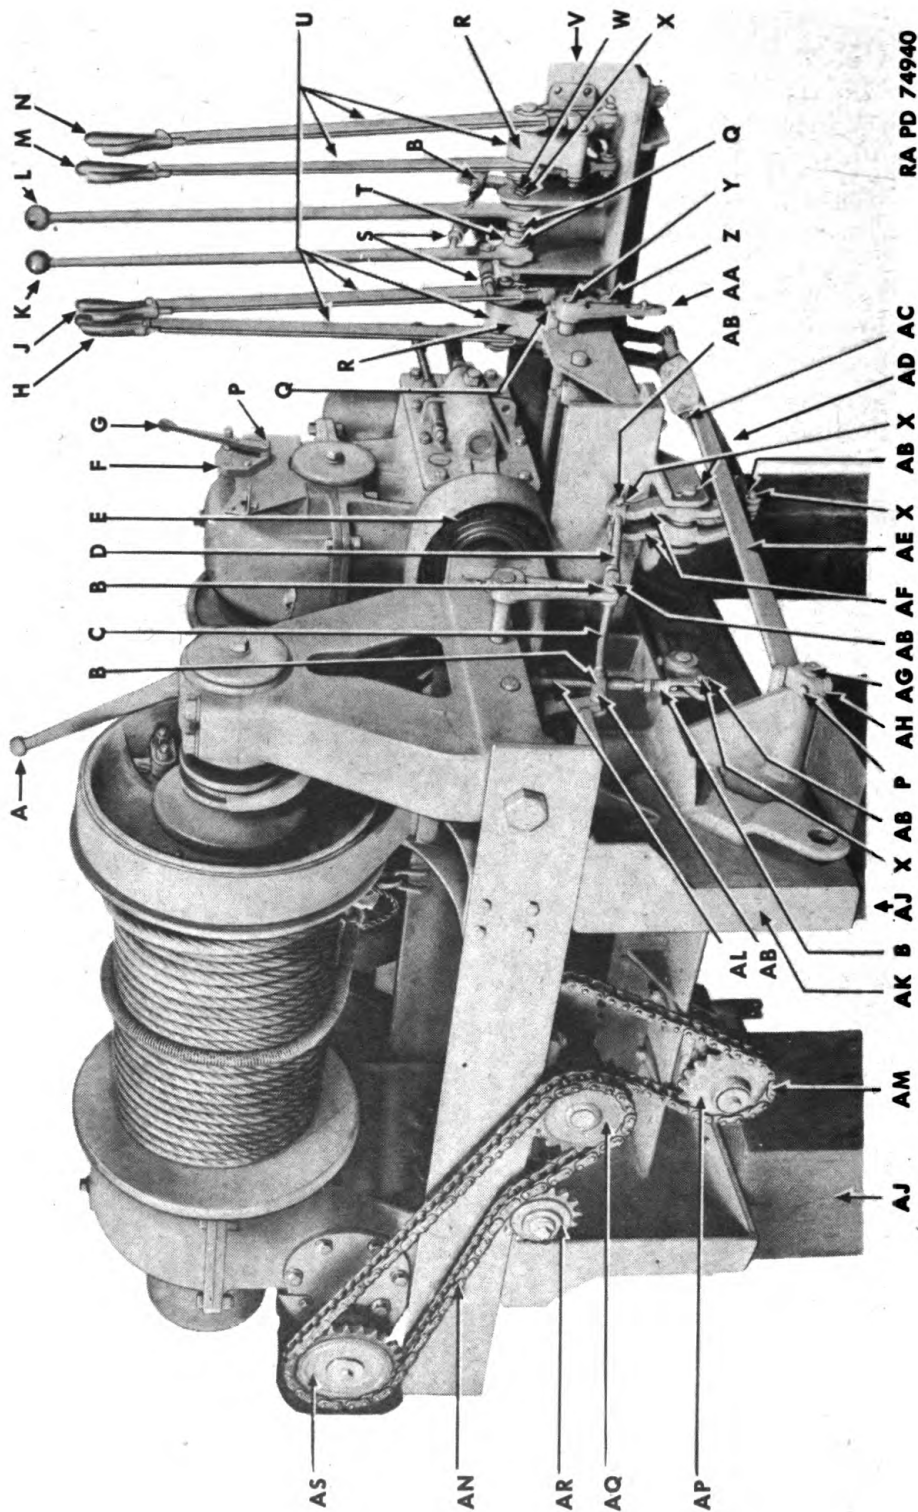

Figure 31 — Tandem Winch Assembly — Front View
(1) **TANDEM WINCH** (figs. 31 and 32). The tandem winch assembly consists of a front (upper) and a rear (lower) winch secured to a mounting assembly which is fastened to the chassis frame at the rear of the cab.
Legend for Figure 31
a. **Remove Front Tandem Winch Double Lever Control Assembly** (figs. 31 and 32). The double lever winch control assembly (U, fig. 31) includes the front tandem winch hand brake and clutch levers and the bracket. Remove two end pins and cotter pins which hold adjusting yokes at the end of the control rods to control shaft lever and to rocker lever assembly at rear of rear tandem winch base rear angle. Remove four nuts, bolts, and lock washers which secure double lever bracket to base rear angle, and lift front winch double lever control assembly from angle.
b. **Remove Rear Tandem Winch Double Lever Control Assembly** (figs. 31 and 32). Rear tandem winch hand clutch, hand brake levers, and bracket (next to rear tandem winch) constitute the rear tandem winch double lever control assembly (U, fig. 31). Loosen set screw at top of rear winch brake control lever, and remove cotter pin and flat washer which hold brake control rod to control lever. Tap brake control lever partly off control shaft, and pull brake control rod from brake control lever. Remove cotter pin and end pin which secures adjusting yoke (at front end of clutch control rod) to clutch control lever. Disconnect brake control lever from adjusting yoke at front end of brake control rod in same manner. Remove four bolts, nuts, and lock washers which secure double lever bracket to rear tandem winch base rear angle, and lift two levers and bracket from angle.
c. **Remove Front and Rear Tandem Winch Hand Control (Gearshift) Levers** (figs. 31 and 32). Remove two cotter pins and end pins which hold adjusting yokes (at rear of operating rods) to operating levers (S, fig. 31). Remove two set screws on two collars between hand control levers. Remove cotter pin from one end of hand lever pin, and drive lever pin from levers and base rear angle. Remove two hand control (gearshift) lever assemblies and two collars. Remove two cotter pins and end pins which secure rocker (AF, fig. 31) and lever to links and adjusting yoke, at rear tandem winch gear case.
e. **Remove Engine Clutch Foot Lever** (fig. 31). This lever is located at left side of front tandem winch. Loosen clamp bolt nut and pull lever from engine clutch control shaft. Remove Woodruff key from end of shaft.
f. **Remove Rear Winch Brake and Clutch Control Rods** (fig. 31). Remove cotter pin and end pin from adjusting yoke and rocker lever (AF, fig. 31) at front end of each rod, and remove two rods. Remove short clutch and brake control rods (C and D, fig. 31) by removing cotter pin and end pin from each end of each rod and its connecting control levers.
g. **Remove Power Take-off Winch Control Lever and Rod** (figs. 31 and 32). Remove lock pin from lever. Remove two cotter pins and end pins which secure lever to bracket and control rod, and remove control lever. Remove cotter pin and end pin which secures adjusting yoke at lower end of power take-off winch control rod (AL, fig. 31) to control shaft lever, and remove rod.
h. **Remove Chains** (fig. 31). Follow procedure given in TM 9-767 to remove tandem drive line to layshaft chain, layshaft to rear tandem winch chain, and layshaft to front tandem winch chain.
j. **Remove Spare Wheel Bracket and Platform** (fig. 32). Remove four bolts, nuts, and lock washers which hold spare wheel bracket to front tandem winch rear base angle (V, fig. 31) and to rear tandem winch front base angle. Remove bracket, then remove two bolts, nuts, and lock washers which secure platform to rear tandem winch rear base angle, and remove platform.